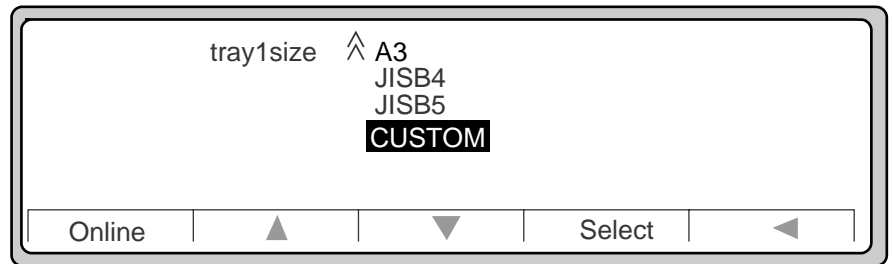

Figure 3-16 Paper size (continuation of selections)
5. Press Select to define this CUSTOM paper size selection (Figure 3-16).